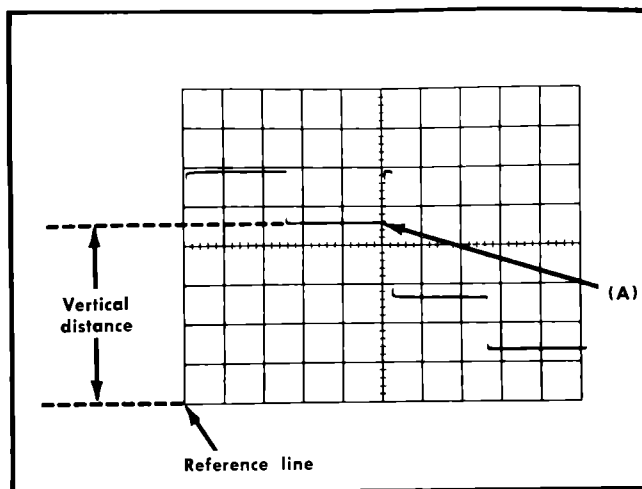

Fig. 2-7. Measuring instantaneous DC voltage with respect to a reference voltage.
4. Measure the distance in divisions between the reference line and the point on the waveform at which the dc level is to be measured. For example, in Fig. 2-7 the measurement is made between the reference line and point A.